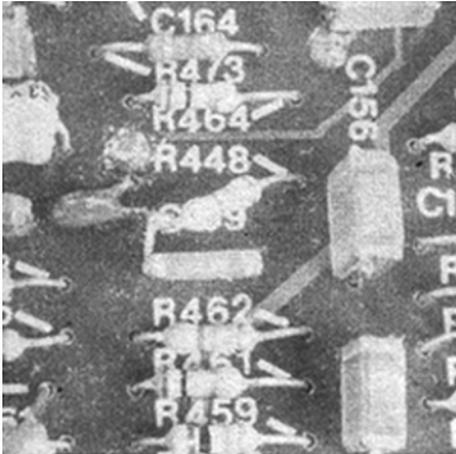

Figure 1. Connecting capacitor in series with R448. See note 5.
- 5 The setting of RV36 is sometimes affected by the position of the cello draw bar. If you have this problem, connect a 1 $\mu$ F 35V tantalum capacitor in series with R448. Lift the left-hand end of the resistor and connect the negative of the capacitor to it with the positive of the capacitor connected to the PCB as shown in Figure 1.